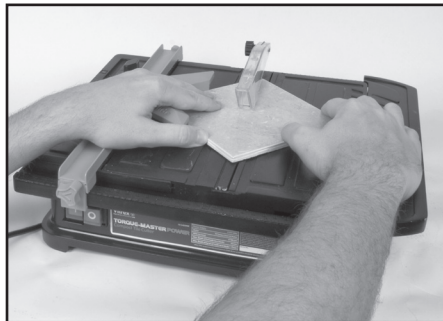

FIGURE 7
2. Carefully push the angle guide and material towards the blade (see FIGURE 7).